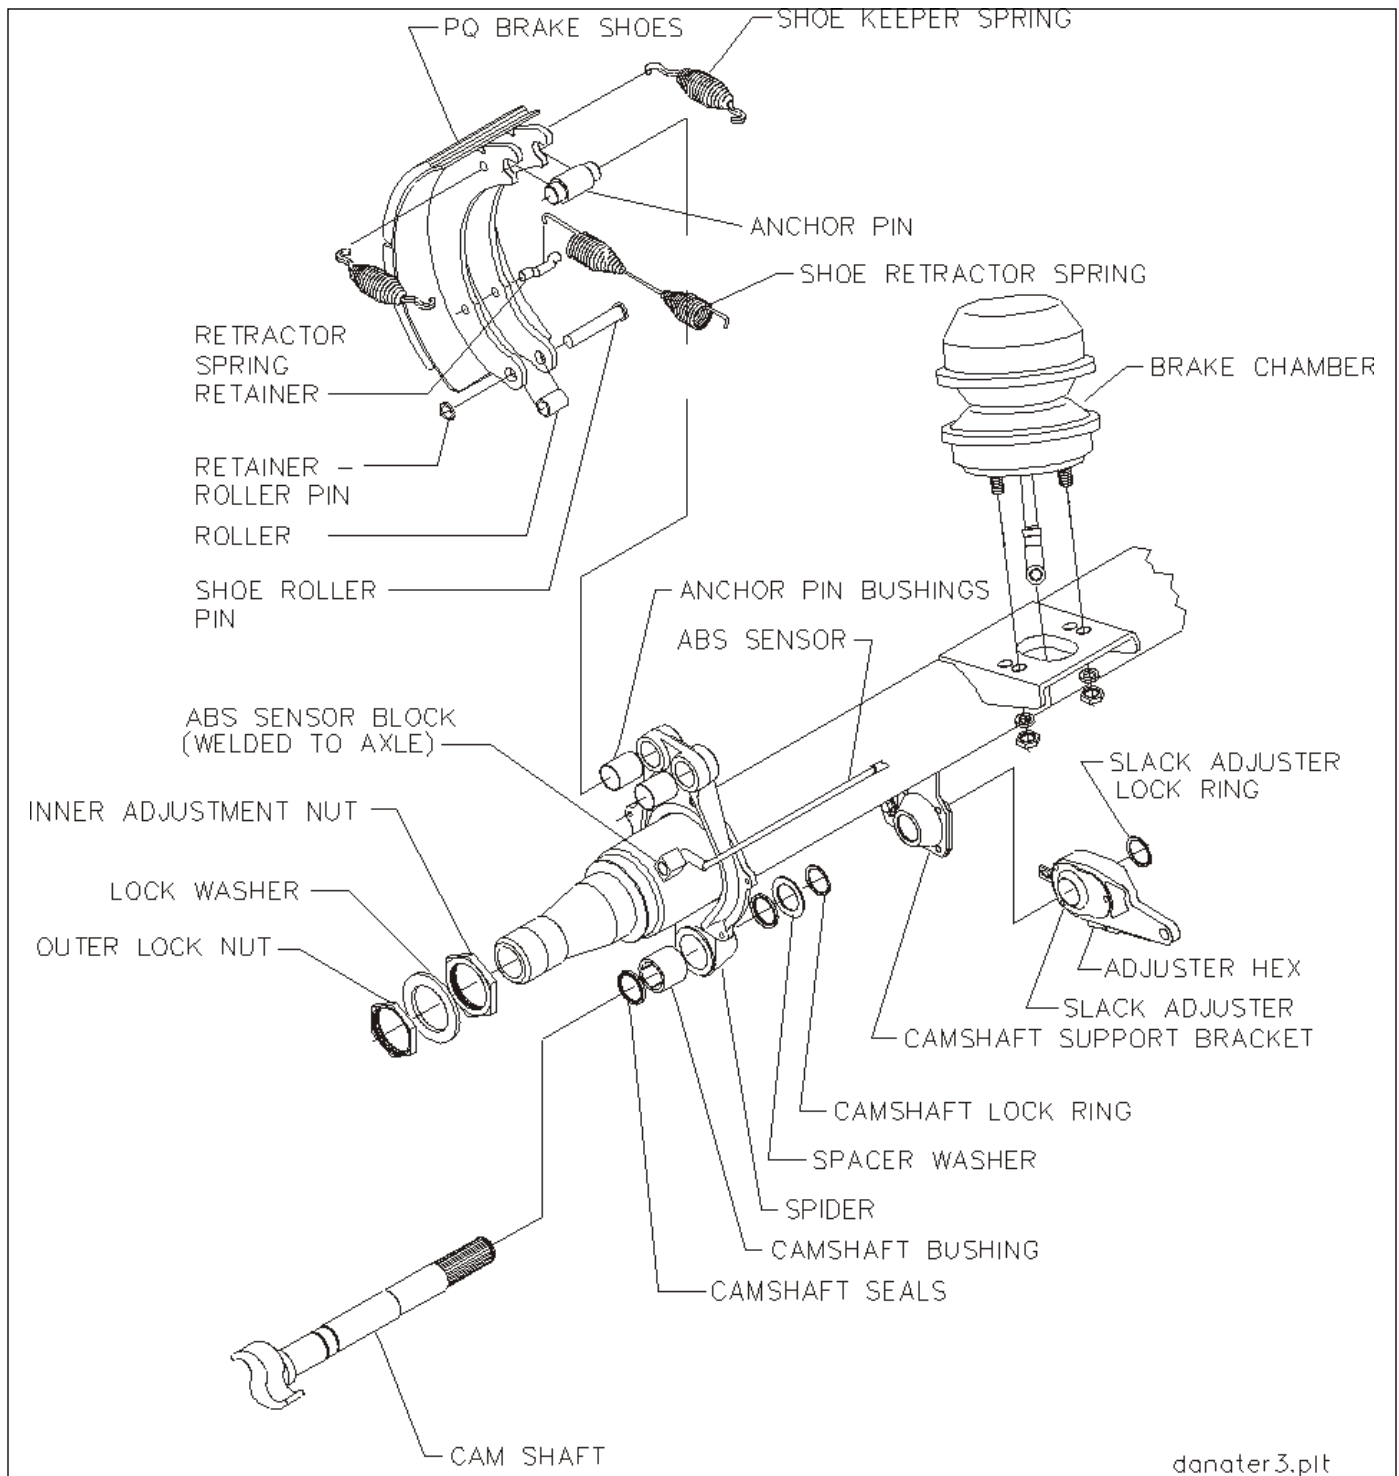

Figure 4-13: Axle and Brake Assembly
4. Disconnect the slack adjuster from the connecting rod by removing the clevis pin (See Figure 4-13.)
1. Release brakes and back off slack adjuster, (**See Figure 4-13.**)
1. Release brakes and back off slack adjuster, (See Figure 4-13.)